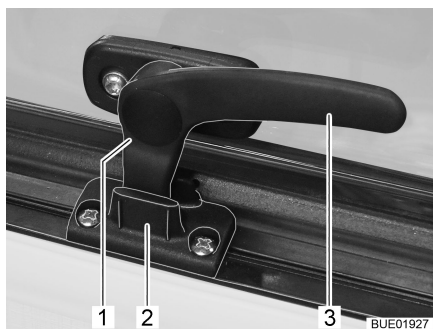

Fig. 15 Catch lever in "continuous ventilation" position
- "Continuous ventilation" (Fig. 15)
- Turn the catch lever (Fig. 15,3) a quarter turn towards the centre of the window.
- Turn the catch lever a quarter turn towards the window frame. The locking catch (Fig. 15,1) has to be moved into the recess of window catch (Fig. 15,2).